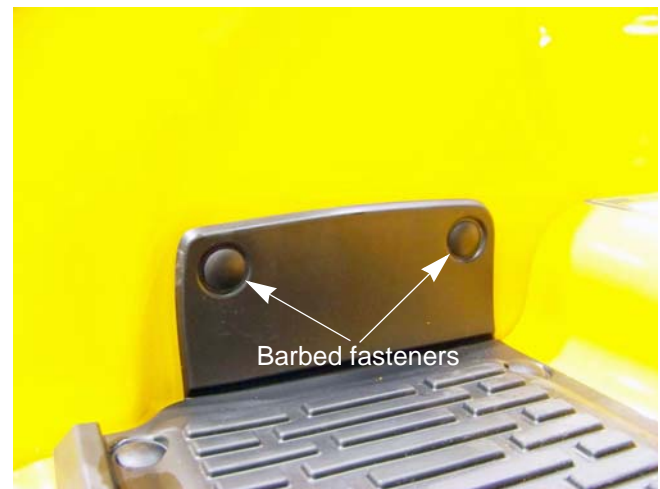

Figure 2.9
11. Gently pry out the barbed fasteners that hold the end of the running board mats to the fender. See Figure 2.9.